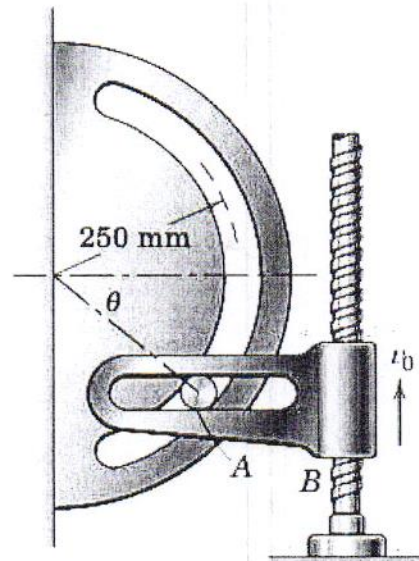

Fig. Q6
6. In the design of a timing mechanism (Fig. Q6), the motion of the pin A in the fixed circular slot is controlled by the guide B , which is being elevated by its lead screw with a constant upward velocity $v_0 = 2$ m/s for an interval of its motion. Calculate both the normal and tangential components of acceleration of pin A as it passes the position for which $\theta = 30^\circ$.